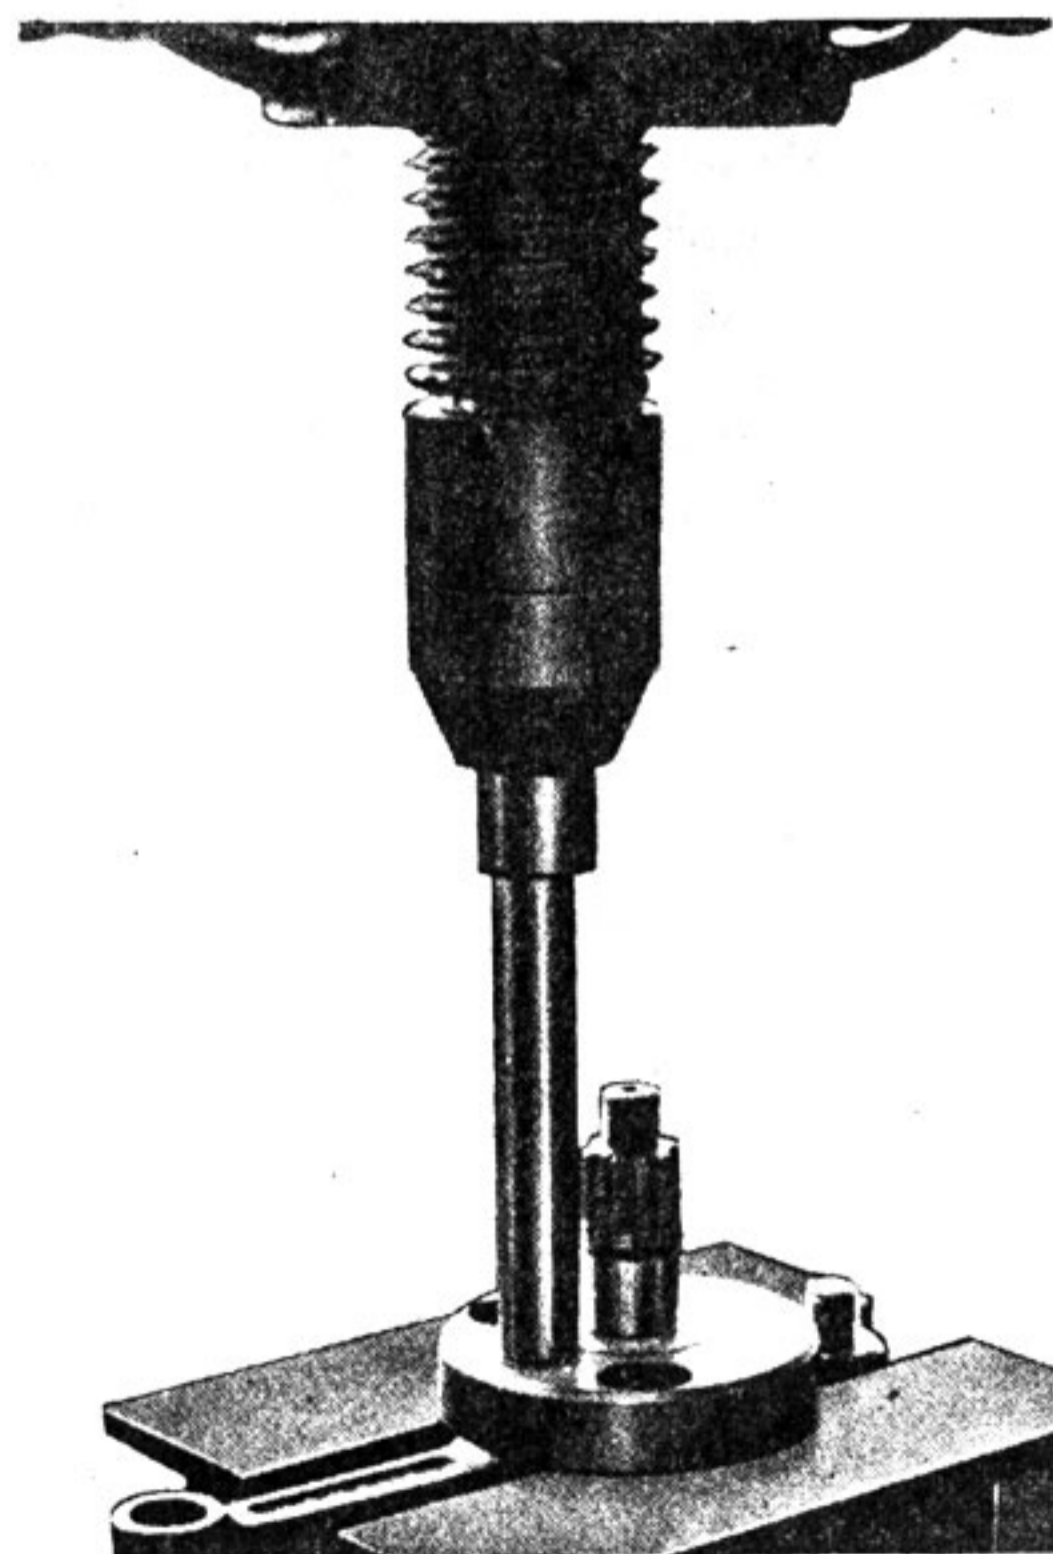
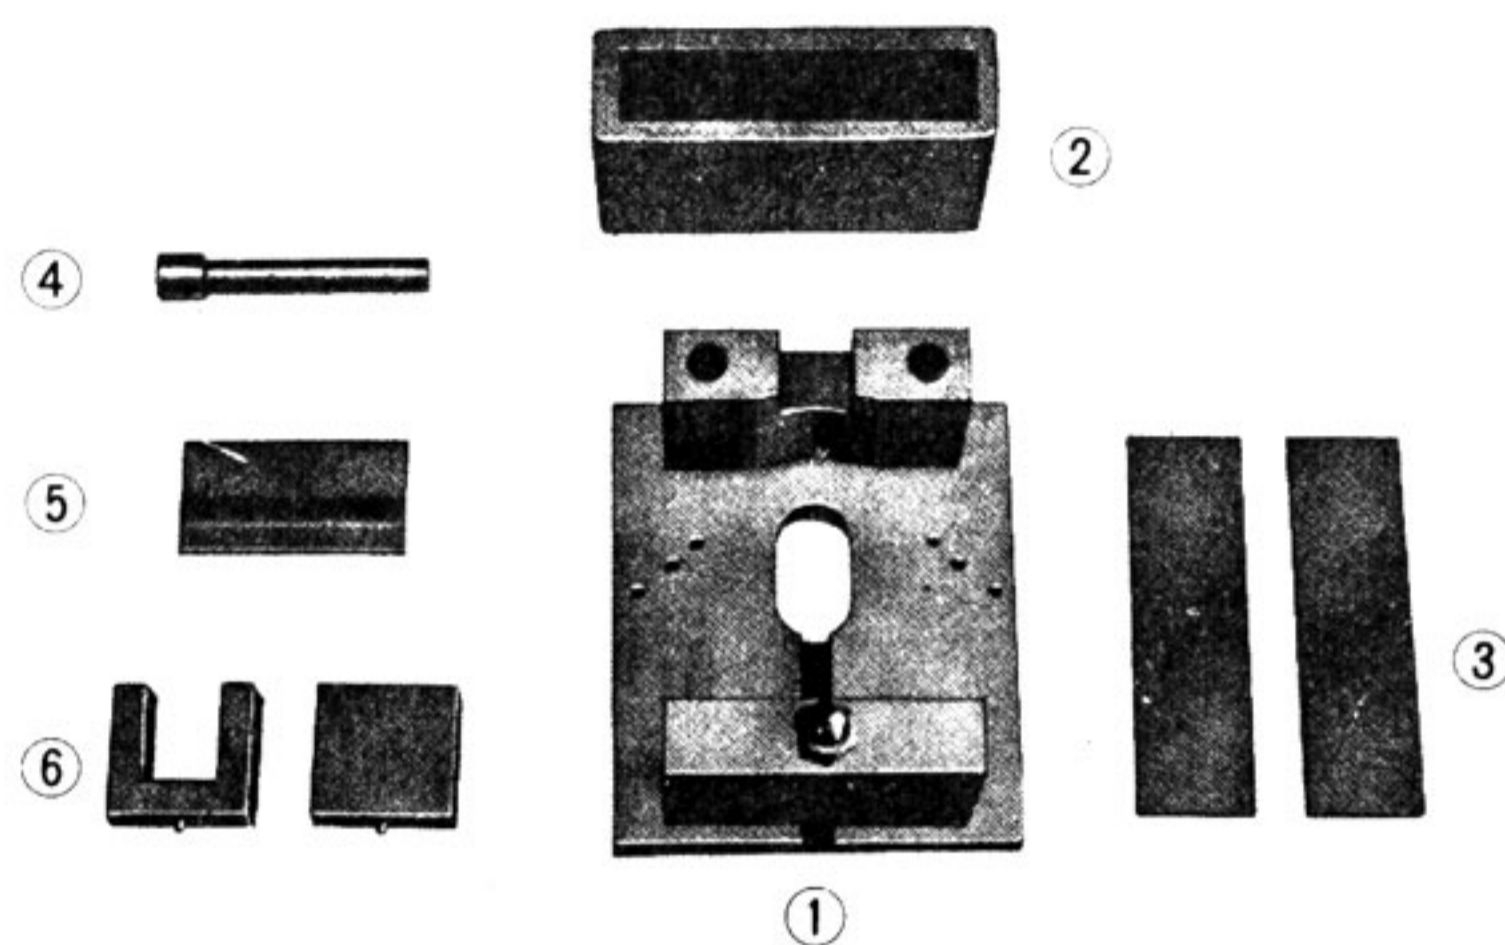

Fig. 4-17-10
Fig. 4-17-11
- (6) Remove the crankshaft pin in the manner as shown in Fig. 4-17-10. (For this purpose, use the jigs as shown in Fig. 4-17-11)
- (7) Next, take the remaining crank wheel with the crank pin still in it, turn the wheel over, place it on the support plates, and press out the crank pin.
- (8) Repeat steps "(6)" and "(7)" to disassemble the other crank half.
To reassemble the crankshaft ass'y use a set of special jigs as shown in Fig. 4-17-11.